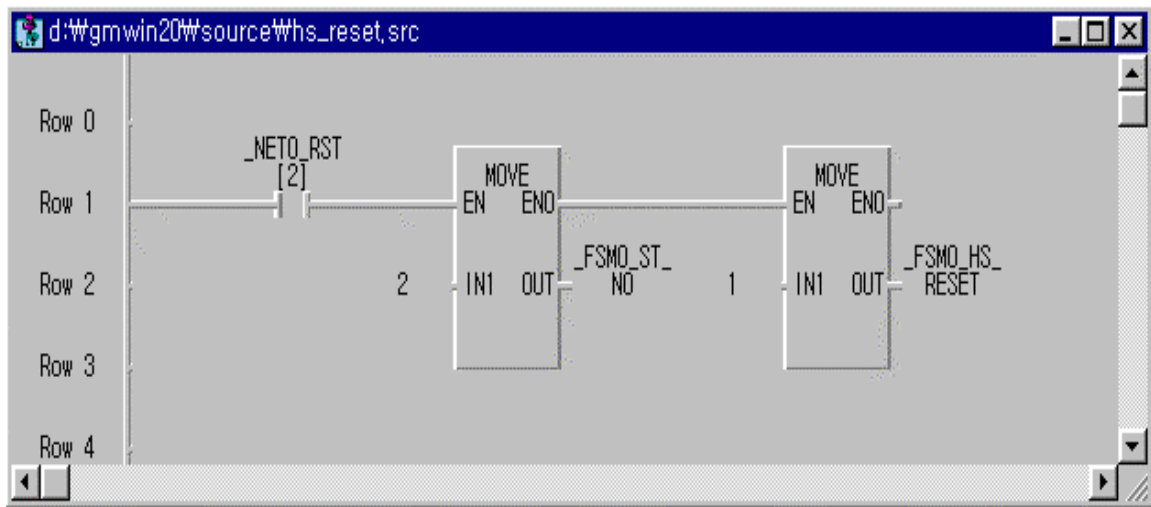

Fig. 6.6.5(A) Ex. of program using \_FSMx\_HS\_RESET
Fig. 6.6.5(A) is an example of program that recovers *high speed link* flag to normal state when remote I/O station is recovered after power failure. In the figure, `_NETO_RST[2]` is a flag that is set to 'On' when power of station 2 becomes down and recovered during performing communication between communication module mounted in slot 0 and station 2 of other station(remote station). If power becomes down and recovered in remote station, `_HS_MODE` is set to 'Off' and link-trouble maintains 'On'. To clear this information, enter appropriate remote station into `_FSM0_ST_NO`, and set `_FSM0_HS_RESET` FLAG to 'On'. Then, `_HS_MODE` is set to '1' and link-trouble is set to 'Off'. If link-trouble maintains '1' after recovering power failure, this means that remote I/O has error, so user can handle it according to system configuration.